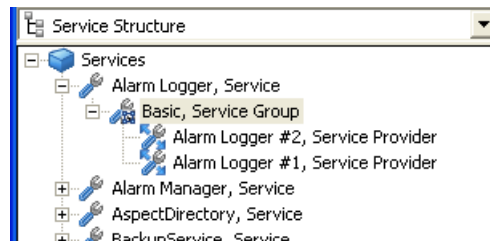

Figure 65. Alarm Logger, Service
1. Add two or more Alarm Logger, Service Providers to a Service Group in the Service Structure. See Figure 65.